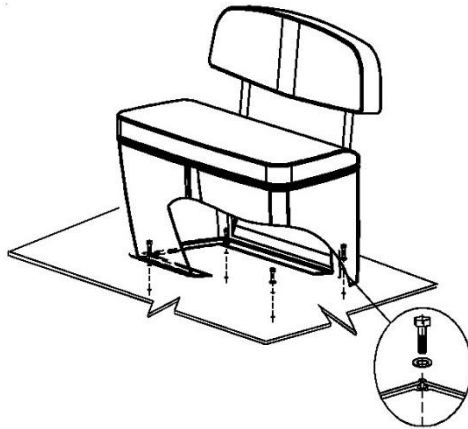

Fig. 10. Installation of container.
- Fix container to the deck by means of bolts M8\*25 and toothed lock washer (fig. 10).